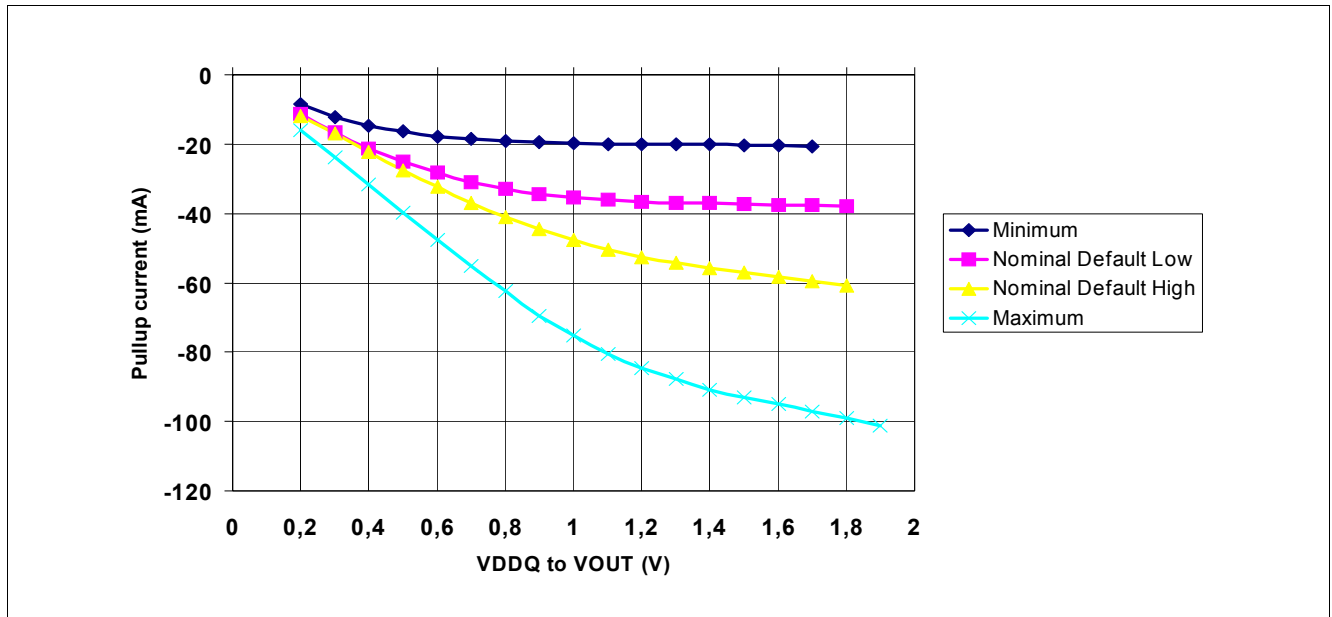
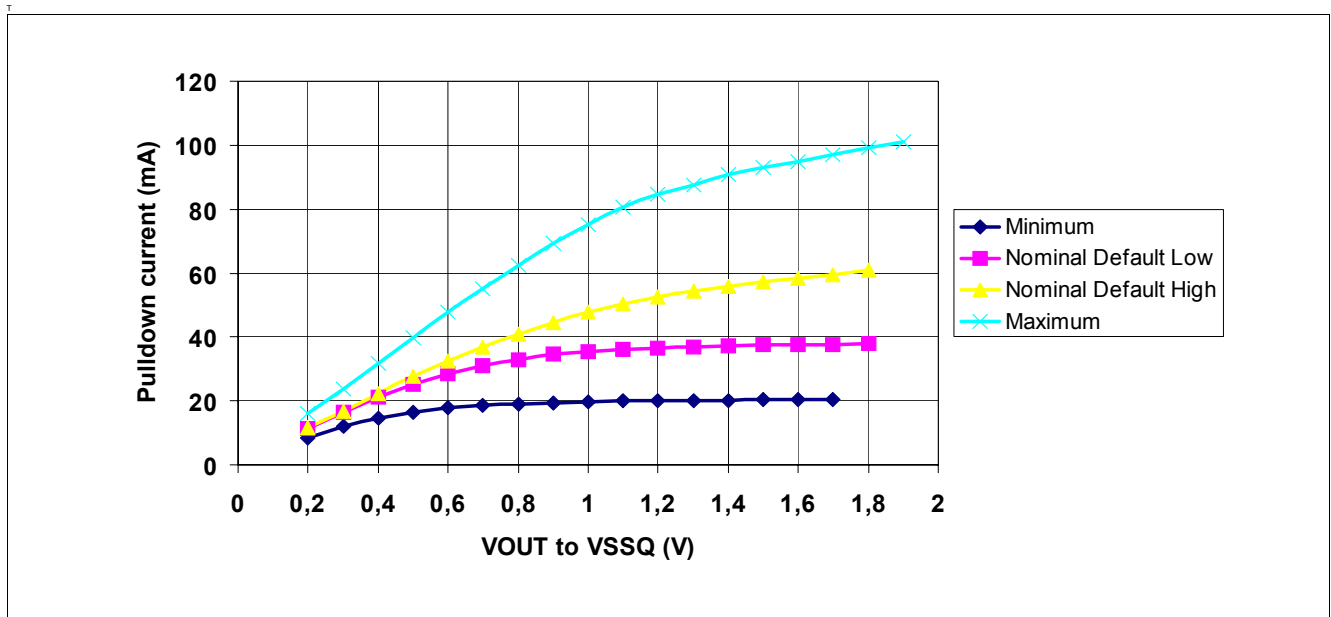

Figure 63 Full Strength Default Pull-up Driver Diagram
Figure 64 Full Strength Default Pull-down Driver Diagram
DDR2 SDRAM output driver characteristics are defined for full strength default operation as selected by the EMRS(1) bits A[9:7] = '111'. Figure 63 and Figure 64